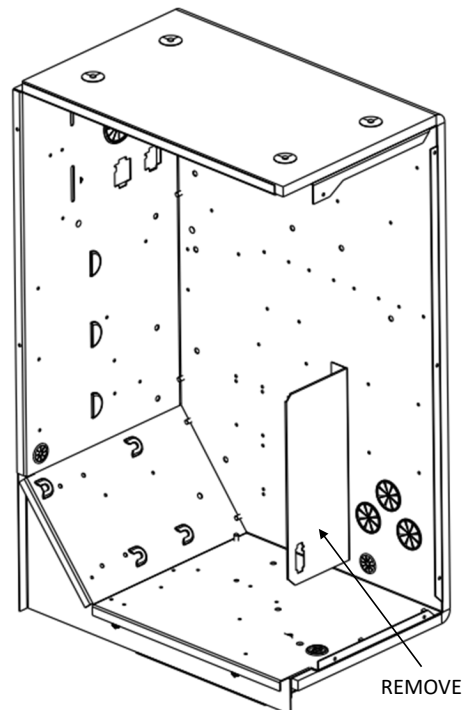

FIGURE 12
5. Remove the existing voltage barrier from the unit control box. See Figure 12.